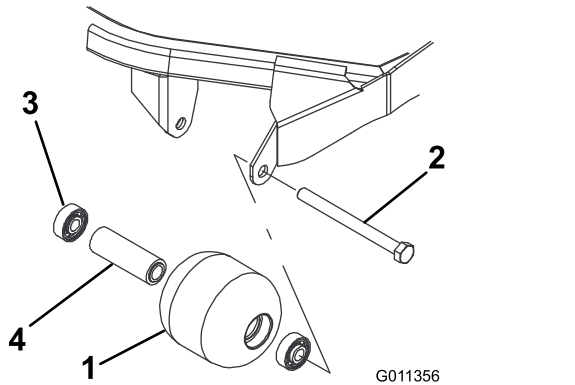

Figure 121
1. Remove the roller-mounting bolt (Figure 121).
4. Inspect the roller housing, bearings, and bearing spacer for damage (Figure 121). Replace any damaged components and assemble them.
1. Press the first bearing into the roller housing (Figure 121). Press on the outer race only or equally on the inner and outer race.
2. Insert the spacer (Figure 121).
3. Press the second bearing into the roller housing (Figure 121). Pressing equally on the inner and outer race until the inner race contacts the spacer.